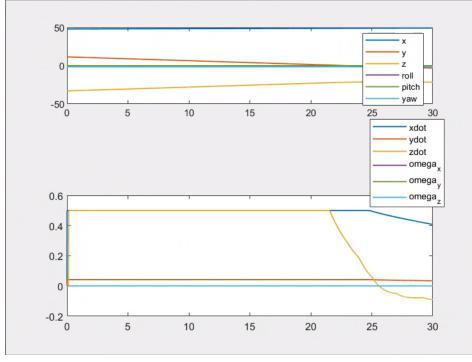

Figure 5: Position and velocities during the Minimum Altitude Vehicle task imposed 10m threshold
- **10 m:** It seems no a reasonable value. The UVMS has initial position below this threshold, so it start floating to the surface very quickly (it is possible to notice this huge vertical velocity in the graph (Figure 5),  $\dot{z}$ ). Of course, the task is not accomplished because the target position is far from the threshold.